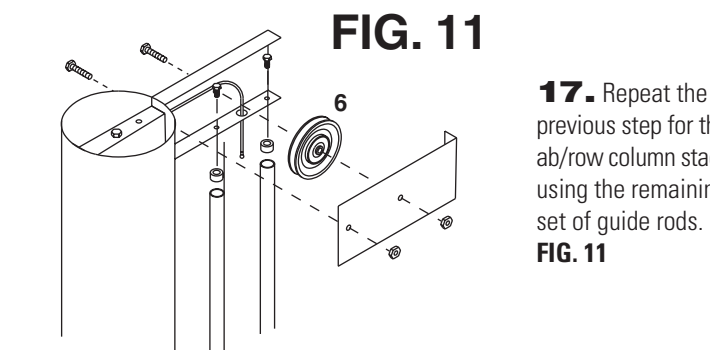

FIG. 11
17. Repeat the previous step for the ab/row column stack using the remaining set of guide rods. **FIG. 11**